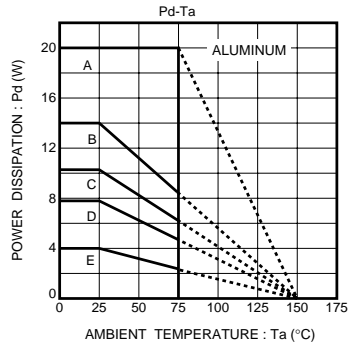

Fig.10 Power dissipation curves (BA5415A)
*2 $T_a = 75^\circ C$ (see Fig.10).